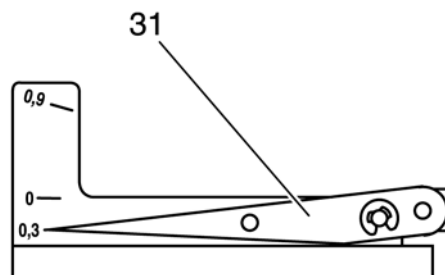

Fig. 17
- Turn the handwheel a full rotation forwards, then keep on turning it until point 31 is at 0.3 (fig. 17).
- Turn the handwheel very slowly forwards until the pointer is at 0.3 (fig. 17).